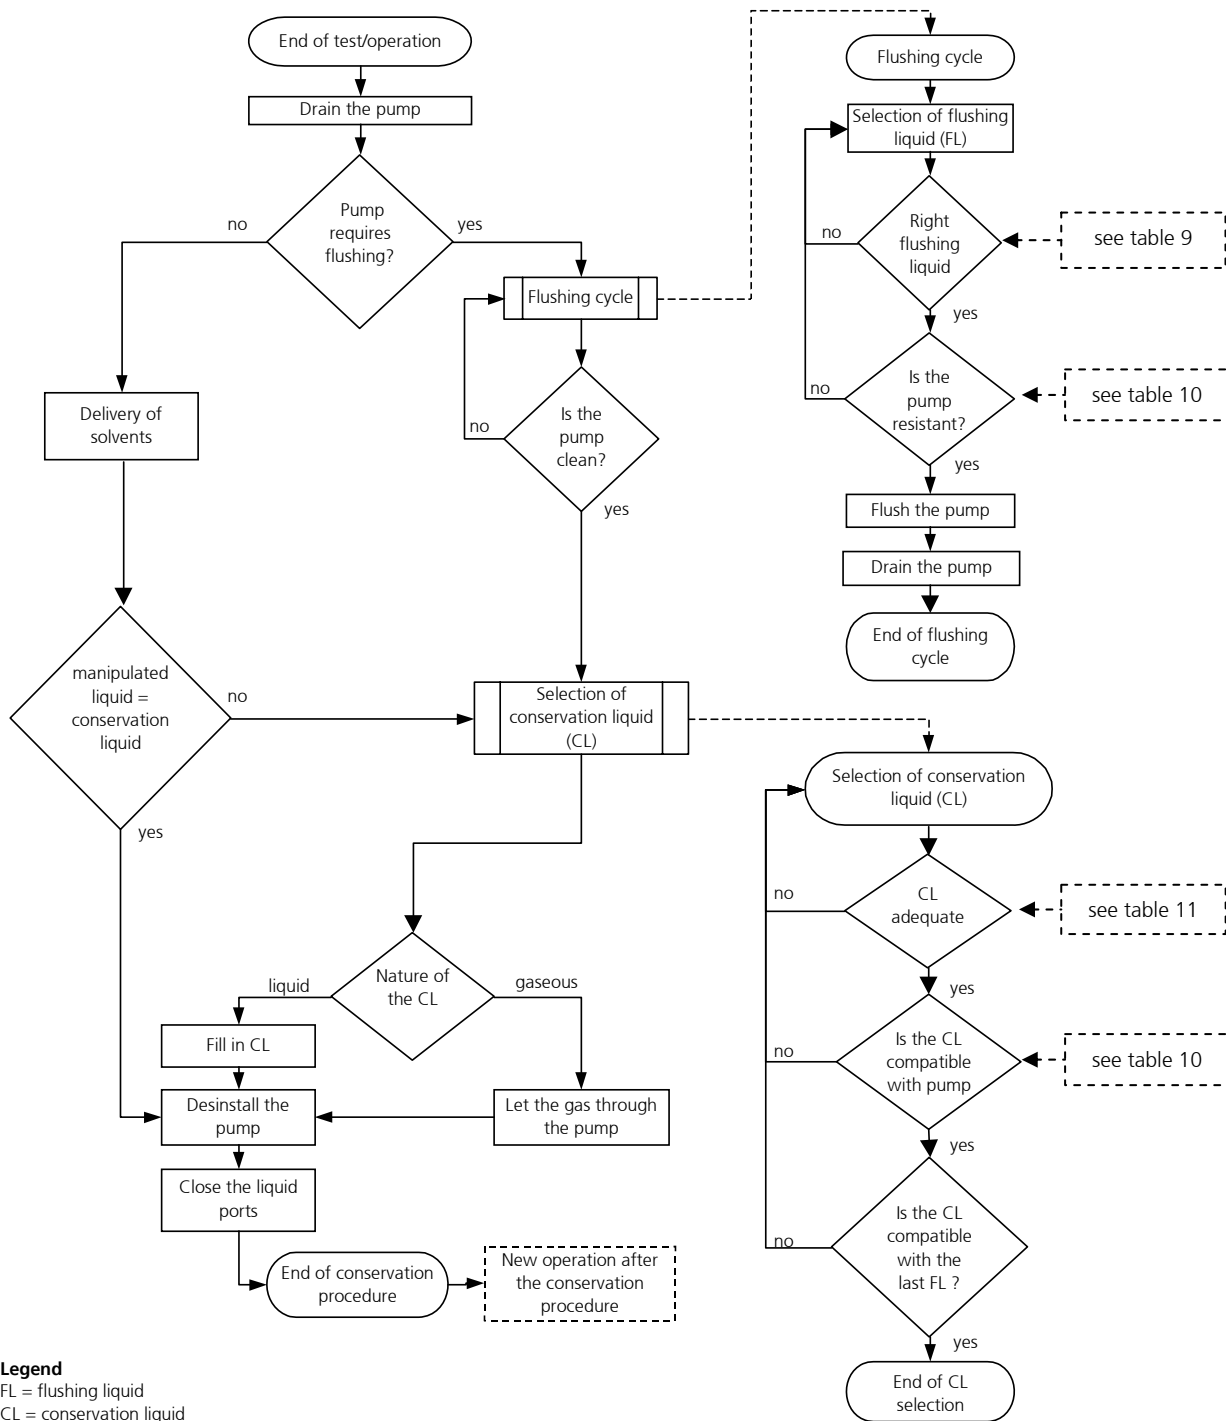

figure 14 Diagram of the shutdown procedure
*Remark:* This diagram is repeated as a part of the figure 14 (shutdown procedure of the micro annular gear pump).